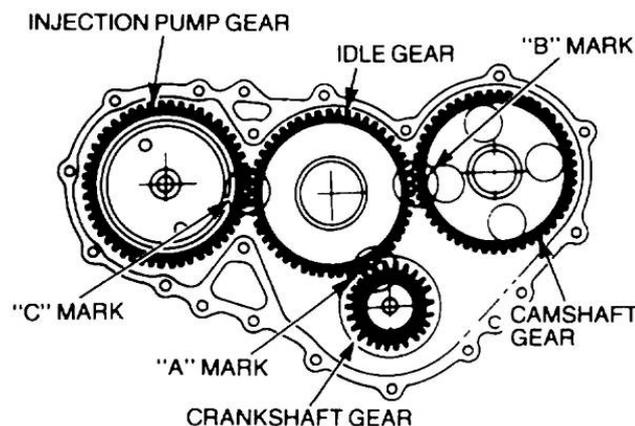

Figure 36 Aligning the Gear Timing Marks
- b. Rotate the crankshaft to align the A mark on the crankshaft gear with the A mark on the idle gear and the C mark on the injection pump gear with the C mark on the idle gear. Carefully install the camshaft and align the B mark on the camshaft gear with the B mark on the idle gear (Figure 36). Rotate the camshaft to align the holes in the gear with the boltholes in the block and rotate the thrust plate to align with the boltholes. Install the retaining bolts and torque the bolts to 21 to 30 N.m (15 to 22 lbf.ft).